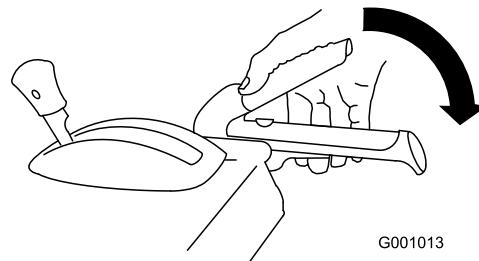

Figure 27
1. To engage the auger/impeller drive, squeeze the right (auger/impeller) lever to the handgrip (Figure 27).